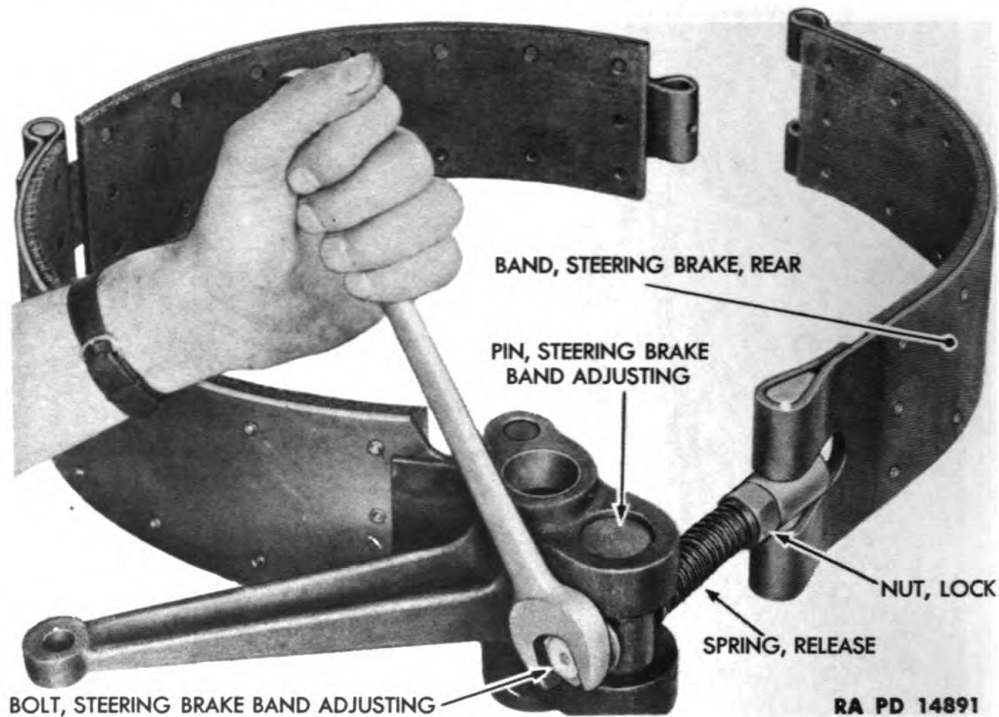

Figure 76 — Steering Brake Band Adjustment Bolt Removal
(1) **REMOVE STEERING BRAKE BAND ADJUSTING BOLT** (fig. 76).
(4) INSTALL STEERING BRAKE BAND ADJUSTING BOLT (fig. 76).